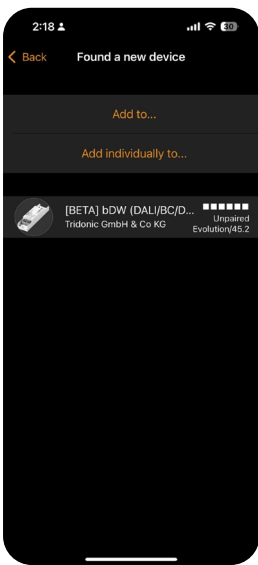

FIG. 21
4. Launch the Casambi app. The app will display a notification "**Found a new device**" when it detects the SR dimmer. Every Casambi dimmer requires assignment to a network. From the notification screen (Fig. 21), choose either "**Add to...**" (for existing networks) or "**Add individually to...**" (to create a new separate network) based on the customer's requirements